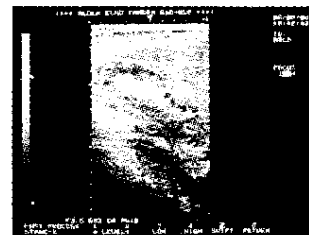

Fig. 6-4-30
- b. When the range is shifted downward using SHIFT from the LEVEL menu, the display becomes as shown in Fig. 6-4-30.